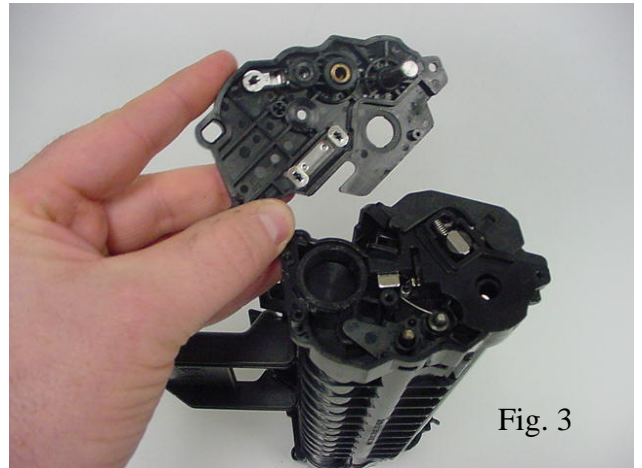

Fig. 3
3. Using a small flat screw driver, gently pry and remove the end cap from the cartridge (Fig. 3).